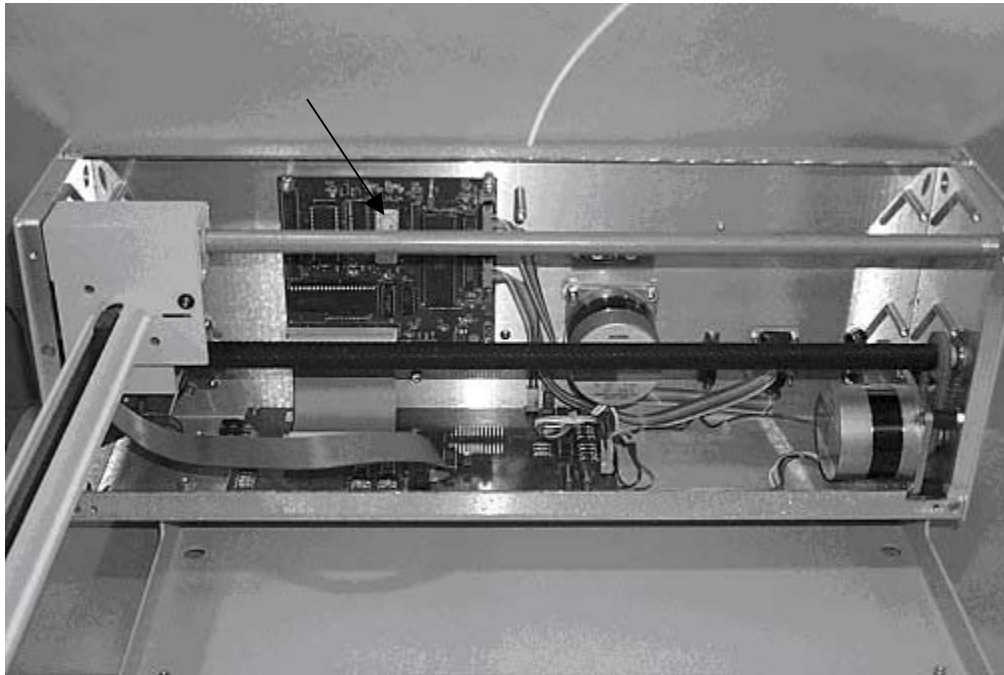

Figure 1-11. View of ASX-510 with inner shield removed.
9. The CPU board is now accessible to remove and or replace the firmware. See Figure 1-11. Ensure that the notch on the EPROM is facing down.